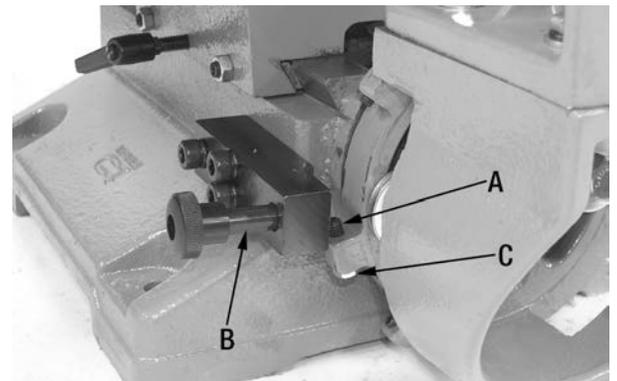

FIGURE 16
To adjust the 0° positive stop set screw (A) Fig.16, make sure the stop pin (B) is pulled out of the way of the 0° positive stop set screw. Install a chisel and bit into the head following the instructions in this manual.
Tilt the head until the chisel is perfectly perpendicular and retighten both head fixing hex. bolts. Push the stop pin (B) in so it is positioned above the 0° positive stop set screw. Loosen the 0° positive stop hex. nut (C) Fig.16, and reposition the 0° positive stop set screw (A) against the stop pin and retighten the hex. nut.